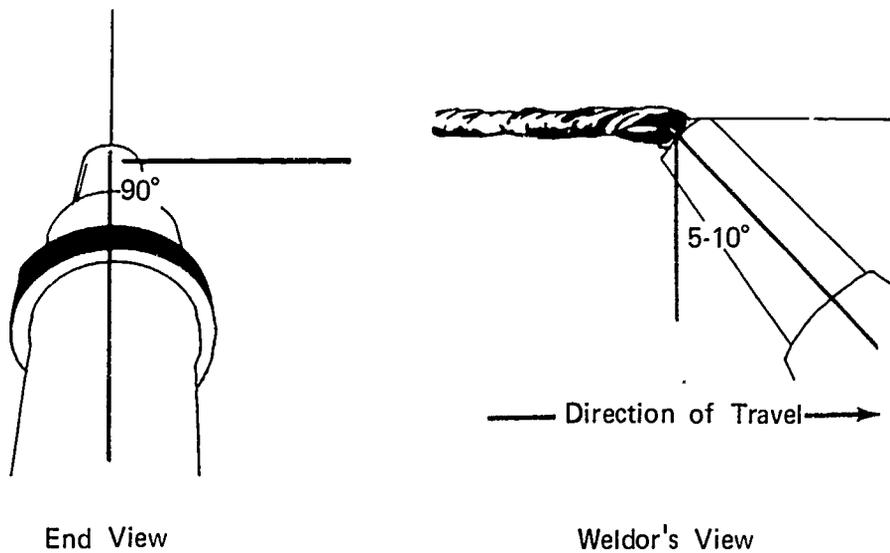

FIGURE 3
- F. Position gun at a 90° side angle straight up into middle of joint and angled $5^\circ-10^\circ$ in direction of travel (Figure 3)